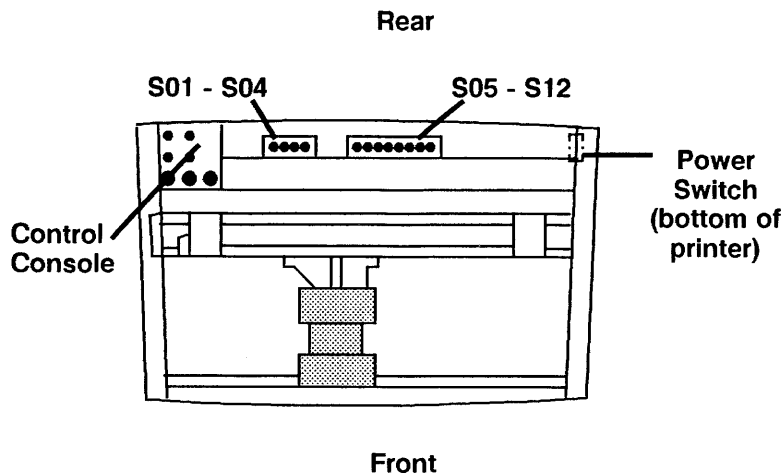

Figure 38. P32 Printer (Top View): Attribute Switch Locations
- b. Refer to Figure 38 for the switch location.